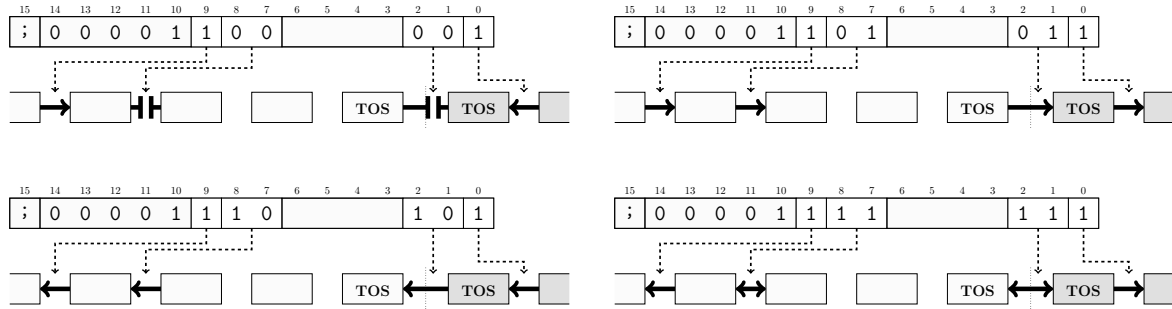

Figure 2-3: Transitions to and from the intermediate stack
- Data shift throughout the entire intermediate stack. The direction is determined by the data movement of the lowest cell of the upper stack (see Figure 2-3).